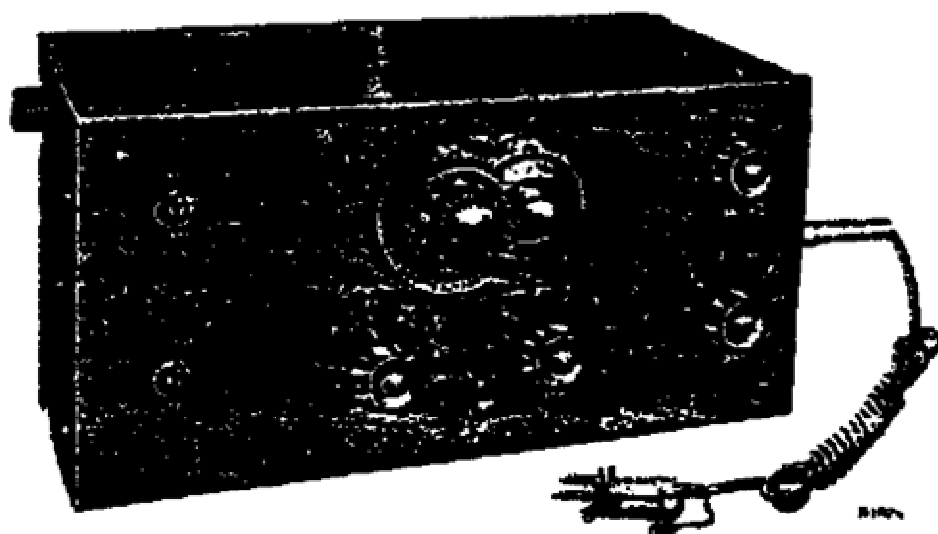

Fig. 1
1. A service oscillator, e.g. G.M. 2880 with a waverange from 14—3000 m (21.5 Mc—100 Kc) see fig. 1.